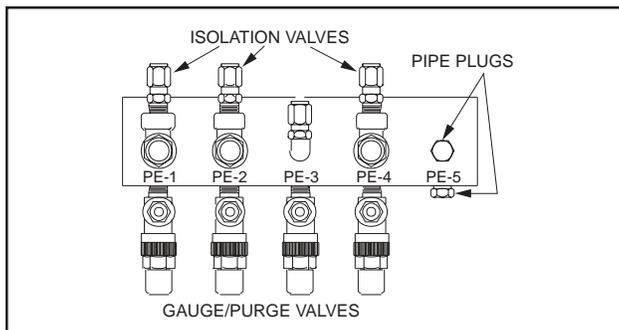

Figure 25
2. Isolate suction transducer PE-4 (see Figure 25 for location) from unit and depressurize using valves provided at the transducer manifold. **NOTE: Recover or transfer all refrigerant vapor, in accordance with local ordinances, before opening to atmosphere.**